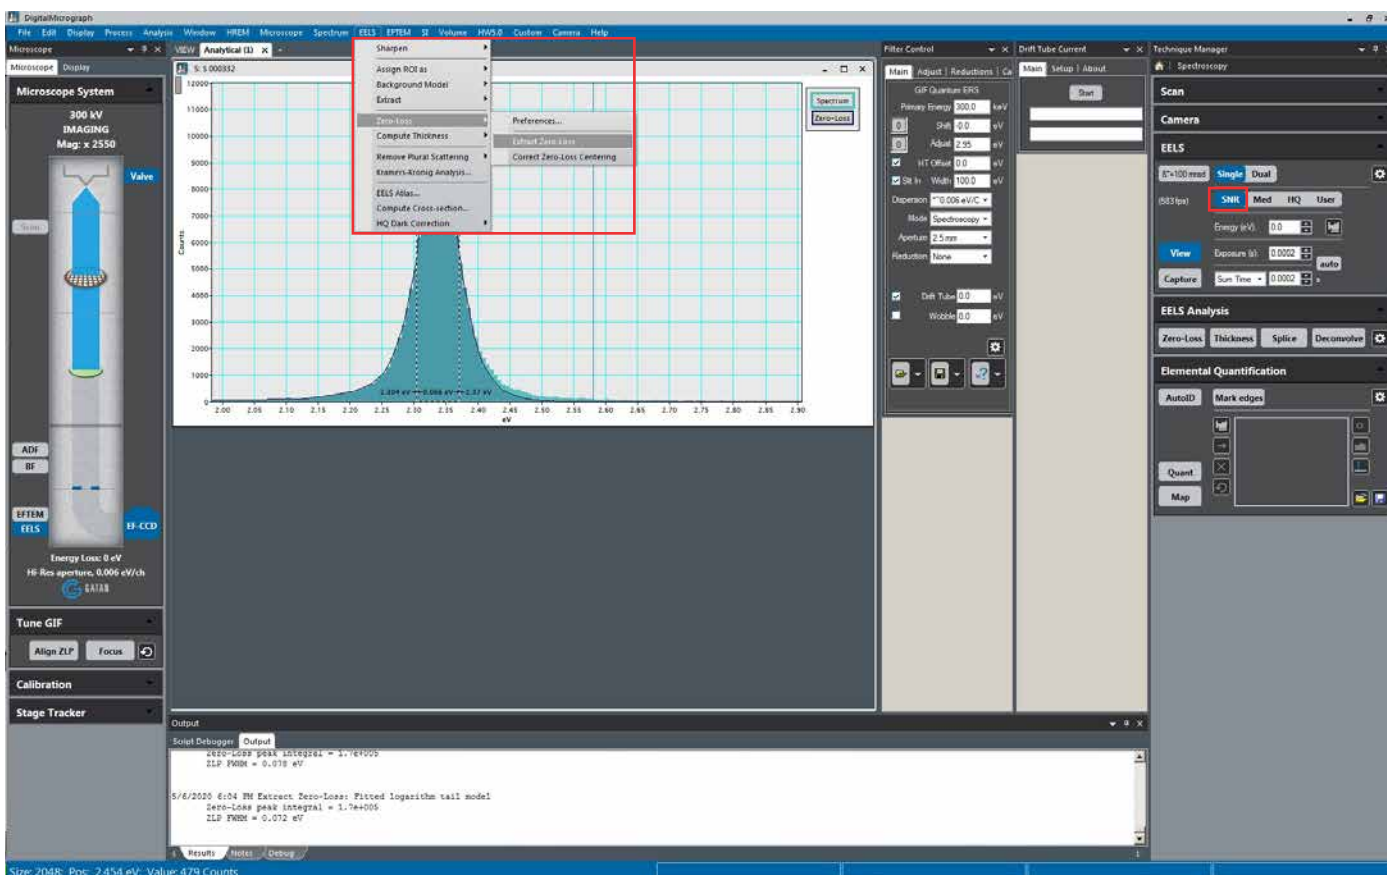
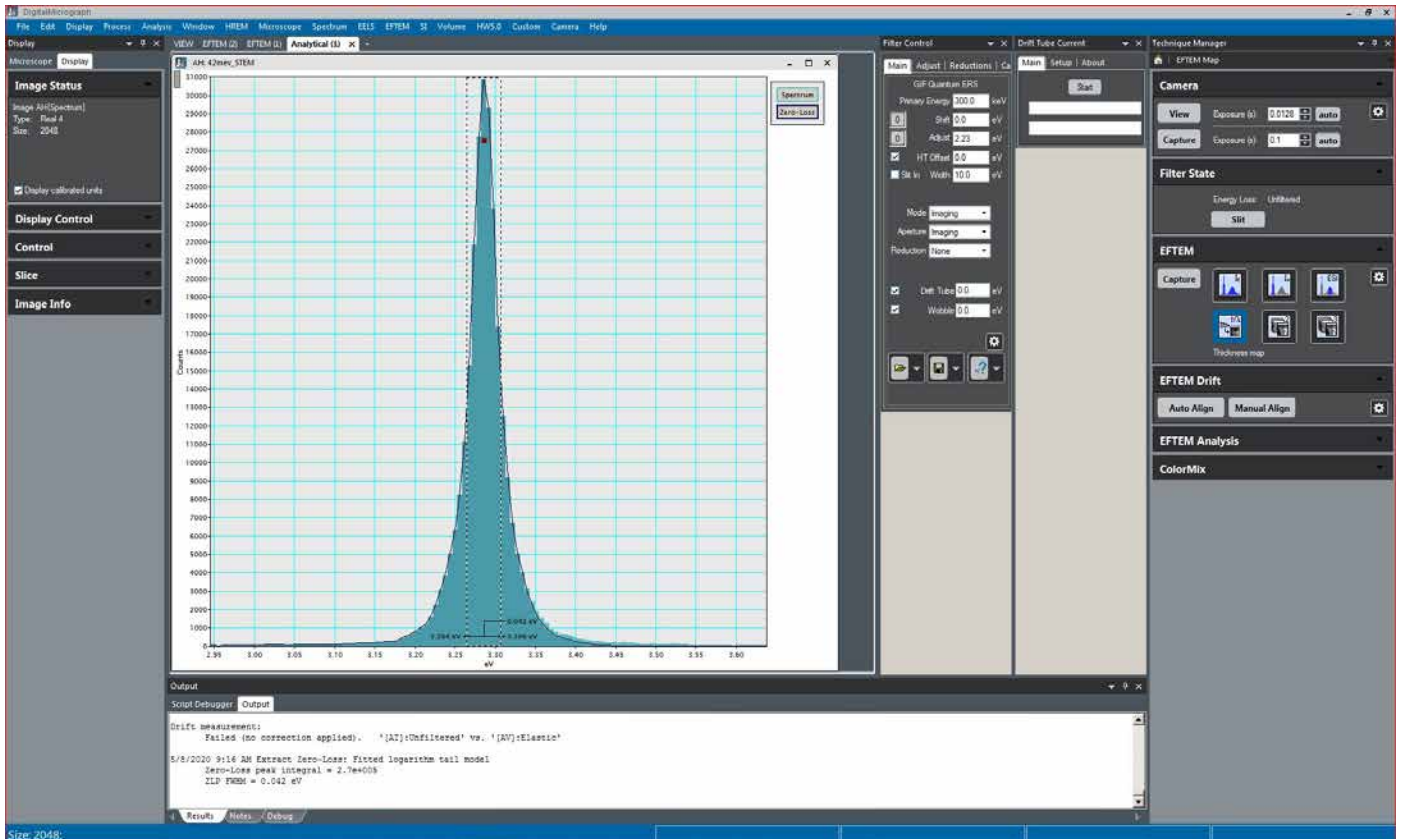

Figure 6. Screenshots showing the measurements of energy resolution.
Figure 9. An example showing an energy resolution of 42 meV achieved at 300 kV with an excitation of 1.6.
- Acquire the EEL spectrum. Click “**Capture**” in the EELS toolbar in “**Digital Micrograph**”, using the SNR setting for the camera and a proper exposure time (Figure 6). Ensure to have the suitable capture setting for Sum Time or Frame Integration. Alternatively, acquire a series of EEL spectra and align the spectra to remove any movement of the zero-loss peak.
- Measure the energy resolution using the ZLP. Click “**Extract Zero-loss**” in “**Zero-Loss**” that is in the drop menu of the “**EELS**” in **DM** (Figure 6) and it will measure the energy resolution. Note that the measurement accuracy depends on the fitting method used. If necessary, adjust the settings to get a more accurate fit.
- Acquire an EEL spectrum and measure the energy resolution. Click **Capture** in the EELS toolbar in DM under SNR setting for camera and a proper exposure per pixel. Then, click **Extract Zero-loss** in **Zero-Loss** that is in the drop menu of the **EELS** in DM (Figure 6). Note that the measured energy resolution also depends on both the microscope and the GIF performance.
- Acquire a STEM image in TIA, right click on the image, and select **Info...**, scroll down to see the **STEM rotation correction** (Figure 9), and write down the angle.
ro-Loss, which is in the drop menu of the **EELS**, for energy resolution measurements (Figure 6). This needs to be done carefully to reach the best possible performance (Figure 9).